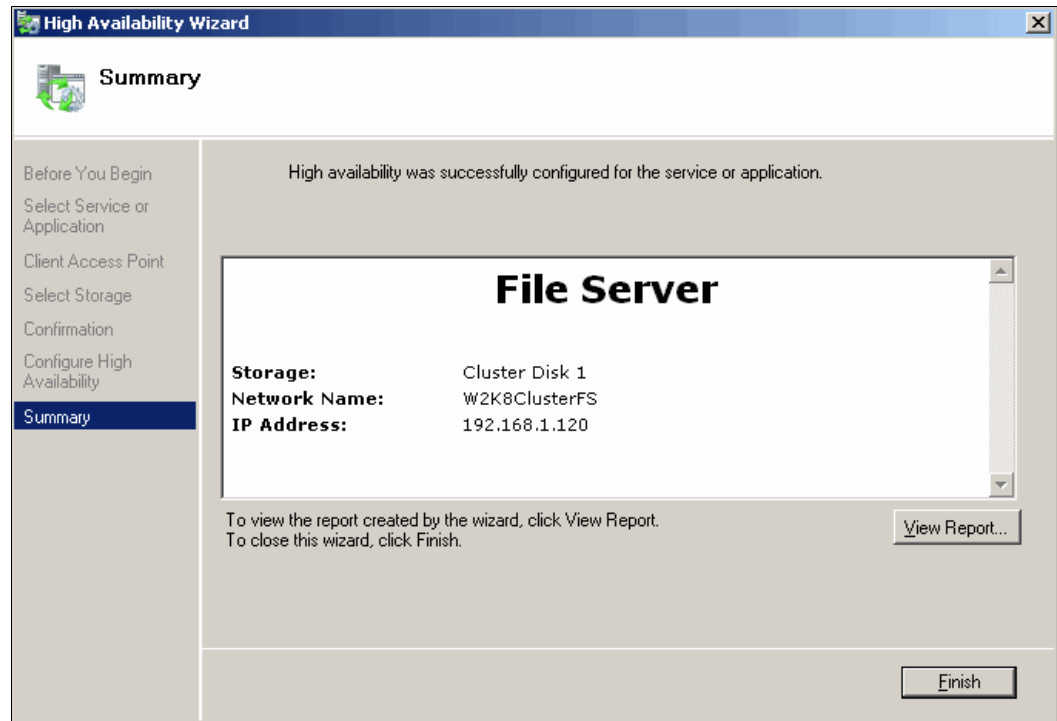

Figure 19-32 File Server Configured Successfully
10. After the wizard runs, the **Summary** page appears as shown in Figure 19-32. To close the wizard, click **Finish**.